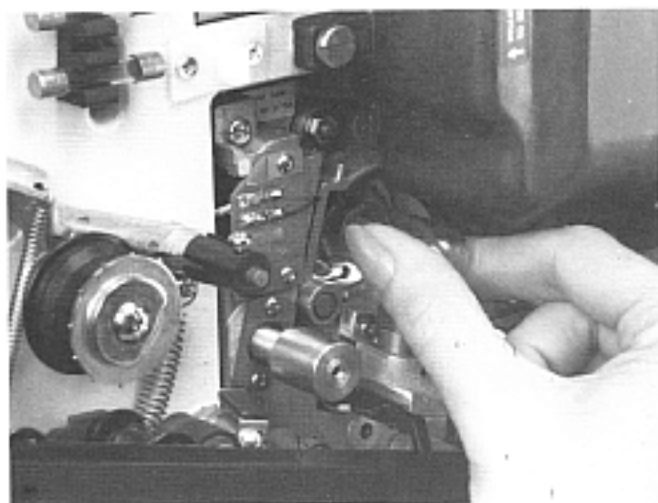

Figure 33
3. Be sure the lamp is cool, then remove it by turning it counterclockwise (see Figure 33) until it is released from the three pins in its socket, and working it out of the recessed socket.